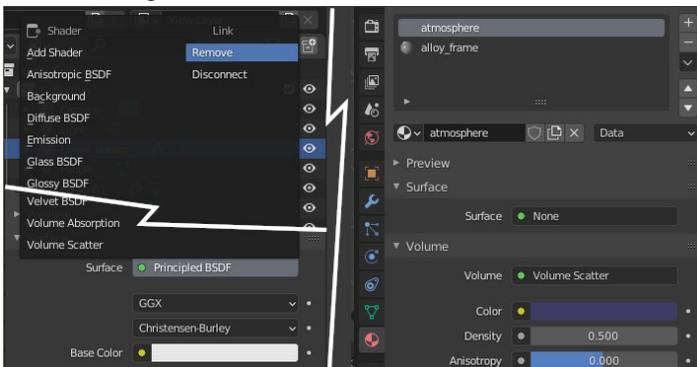

Figure 2-16 Change Material Surface shader to None and the Volume shader to Scatter.
2. Switch to the Material properties tab (pink and black sphere, shown in the bottom center of Figure 2-16), add a new material, and rename it to **atmosphere**. Add a New Material Slot with the + button (top right of Figure 2-17), then with the drop-down beneath the list of slots, **Browse Material to be linked**, select the material you used for the top dome and corridor, which should still be called Material.001. Rename it to **alloy_frame**. With the **atmosphere** Material Slot selected, change the default Surface shader from Principled BSDF to **Remove** and the Volume shader to **Volume Scatter** as shown in the composite Figure 2-16.
1. Select the Output Properties tab (white printer icon, second from top in Figure 2-16) and tick the **Render Region** checkbox.
When working with materials, keep in mind that objects have a list of “slots,” each capable of holding a material, but the materials themselves are held centrally so multiple objects can use them. The pool of available materials is accessed from the little drop-down below the list of slots (Figure 2-16). In the next chapter, you will see how different materials can be applied to different groups of vertices or faces.